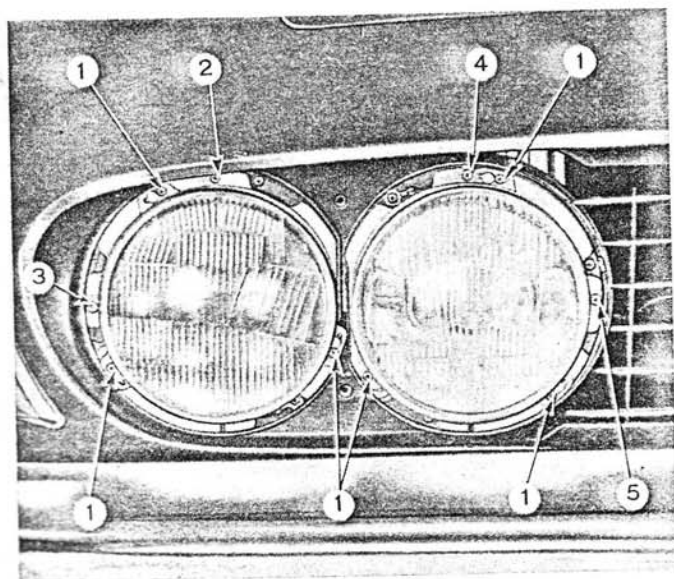

Fig. 131. - L.H. headlamps, without rim.
To aim headlights, switch on the low beam (outside ps) and work on the screw (2, fig. 131) for vertical adjustment of headlights and on the screw (3) for the horizontal, until: